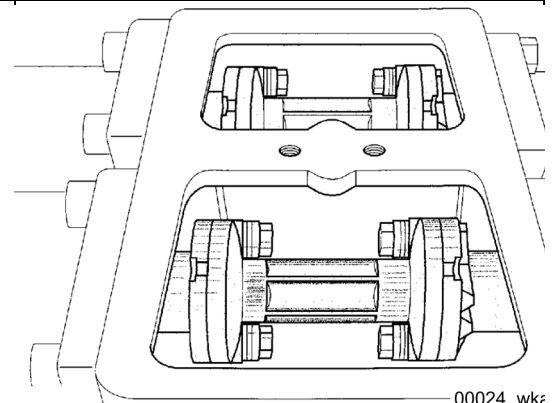

Fig. 338
- Move the piston to just in front of the rear end position. The distance piece (**Fig. 338**) must be fully visible in the water box.